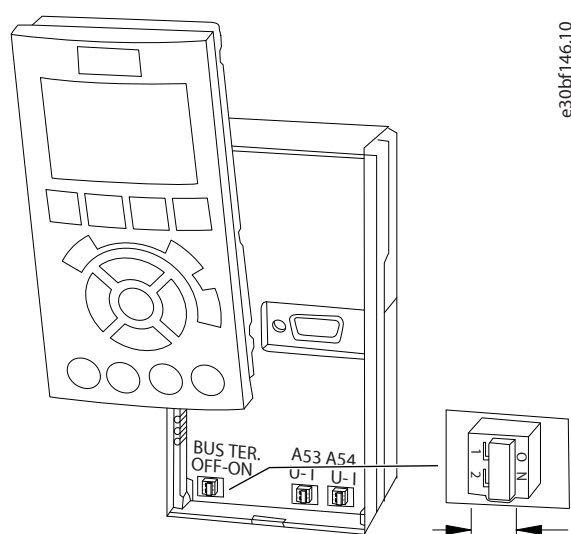

Figure 15: Location of Switches A53 and A54
4. Set switches A53 and A54 to select the signal type (U = voltage, I = current). See Figure 15.